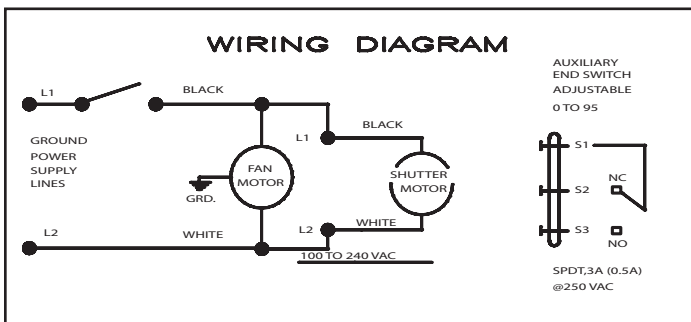

Figure 4 – Wiring Diagram – 100-240V, 50/60 Hz
- 4 Tighten adjustable extension arm that was loosened in step (2) above.
- 6 Wire motor per Figure 4 following general safety information.